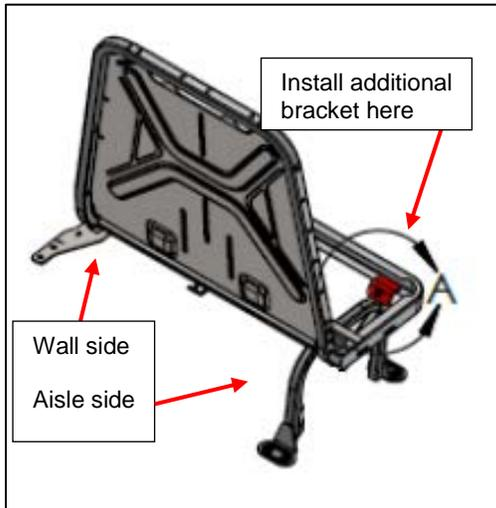

Figure 5: Location of Additional Bracket
1. At the location indicated in **Figures 5 and 6**, drill a hole in the seat leg. (Drilling from the top is recommended.)